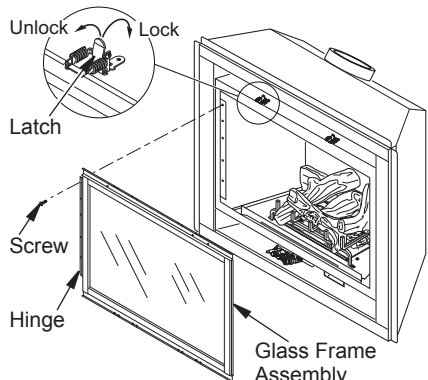

Figure 41 - Removing/Replacing Glass Door
2. Lift up on latches to unlock. There are two on top of firebox and two below firebox that hold glass door in place (see Figure 41).
3. While holding glass door to prevent it from falling and causing injury, remove 5 screws from hinge located on left side of door frame assembly (see Figure 41).
5. Close glass door frame. Lock latches by placing bar under tab on door and pushing down and back on latch (see Figure 41).